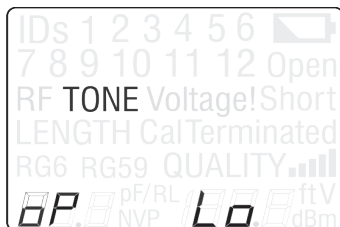

Figure 10. Tone Test with Lo Cadence and Coax Pin Selected
2. Press the TONE button. The LCD display screen shows the following icons upon entering Tone Mode (see Figure 10):
- The tone path last selected: coax pin (P), coax shield (S), or both coax pin and shield (PS).